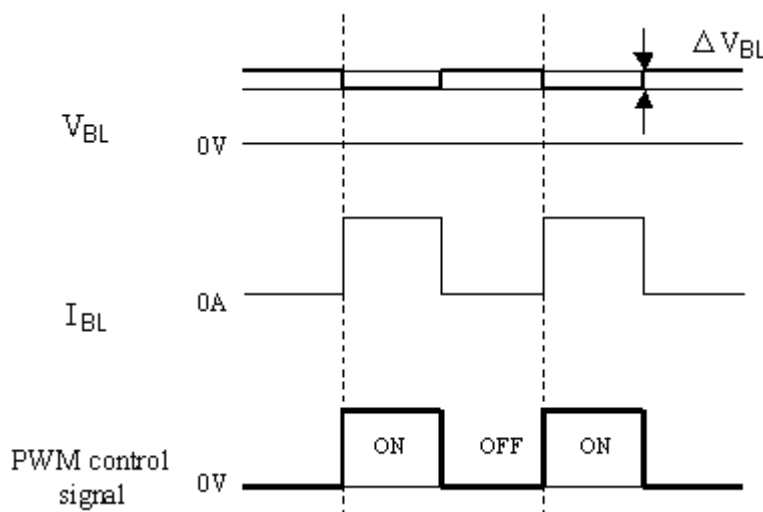

Fig.11-1 Brightness control voltage.
- c) Brightness control voltage is switched for "ON" and "OFF", as shown in Fig.11-1. Voltage difference generated by this switching, ΔV_{BL} , may affect a sound output, etc. when the power supply is shared between the inverter and its surrounding circuit. So, separate the power supply of the inverter circuit with the one of its surrounding circuit.